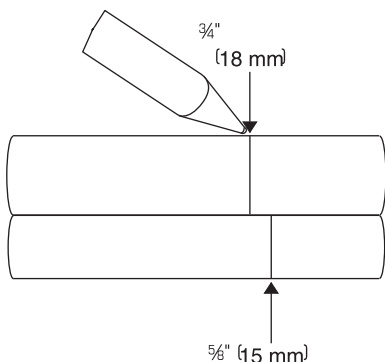

Fig. 18
1. a) Lay the RED and GREEN tubes on the top of the diagram, and lay the BLUE tube on the bottom. Use a pen to **mark** them at the arrows (Fig. 18).
- b) Use a ruler or **lay** the tube from the cold water supply on the top of the diagram and **mark** a line at $\frac{3}{4}$ " (18mm) or at the arrow (Fig. 18).